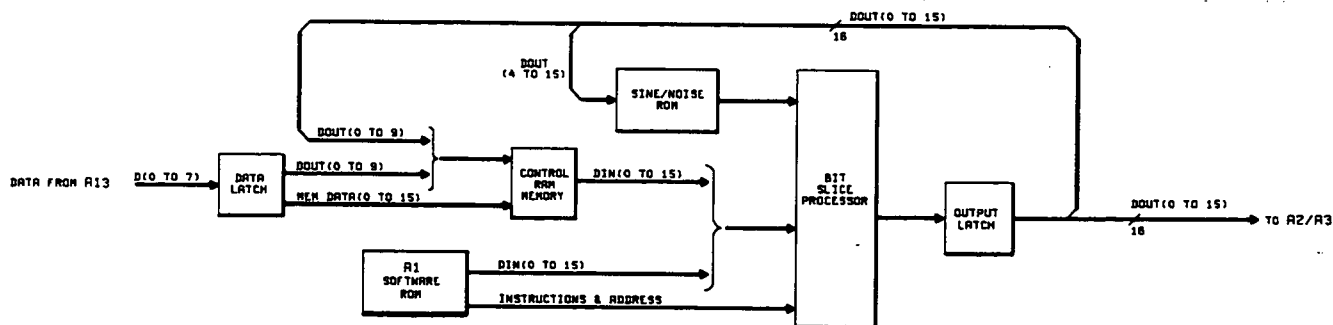

Figure A1-5 Sinewave Generation
A1-20 When the frequency of a test signal is keyed in via the front panel, the processor on A13 reads the frequency and produces a 16 bit binary word representing the INCREMENT described in paragraph A1-17. This INCREMENT is stored in a specific address in the Control RAM Memory (see Figure A1-5). When the Bit Slice Processor is not busy, the A13 assembly applies the INCREMENT and address word to the Control RAM Memory via the Data Latch.
A1-31 The A1/A101 software contains the CCITT PCM Frame Structure - the basic frame comprises 32 timeslots (TS). The PCM Frame Structure is constructed by accessing the framing and signalling information stored in RAM at the appropriate time e.g. the FRAME ALIGNMENT WORD stored in RAM is addressed by the A1/A101 software at a time equivalent to TSO every alternate frame. The address information is fed to the Control RAM Memory via the Bit Slice Processor and Output Latch (see Figure A1-5).